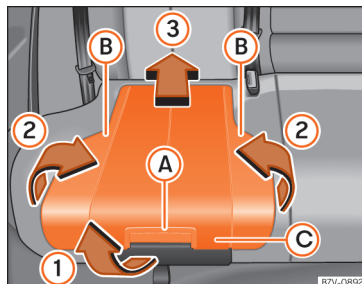

Fig. 32 Integrated child seat: lift the cushion.
- Pull the unlock lever »» Fig. 32 (A) on the cushion in the direction of the arrow »» Fig. 32 (1).
- Fold both sides »» Fig. 32 (B) up in the direction of the arrow »» Fig. 32 (2).
- Push the cushion »» Fig. 32 (C) back in the direction of the arrow »» Fig. 32 (3) until it engages.